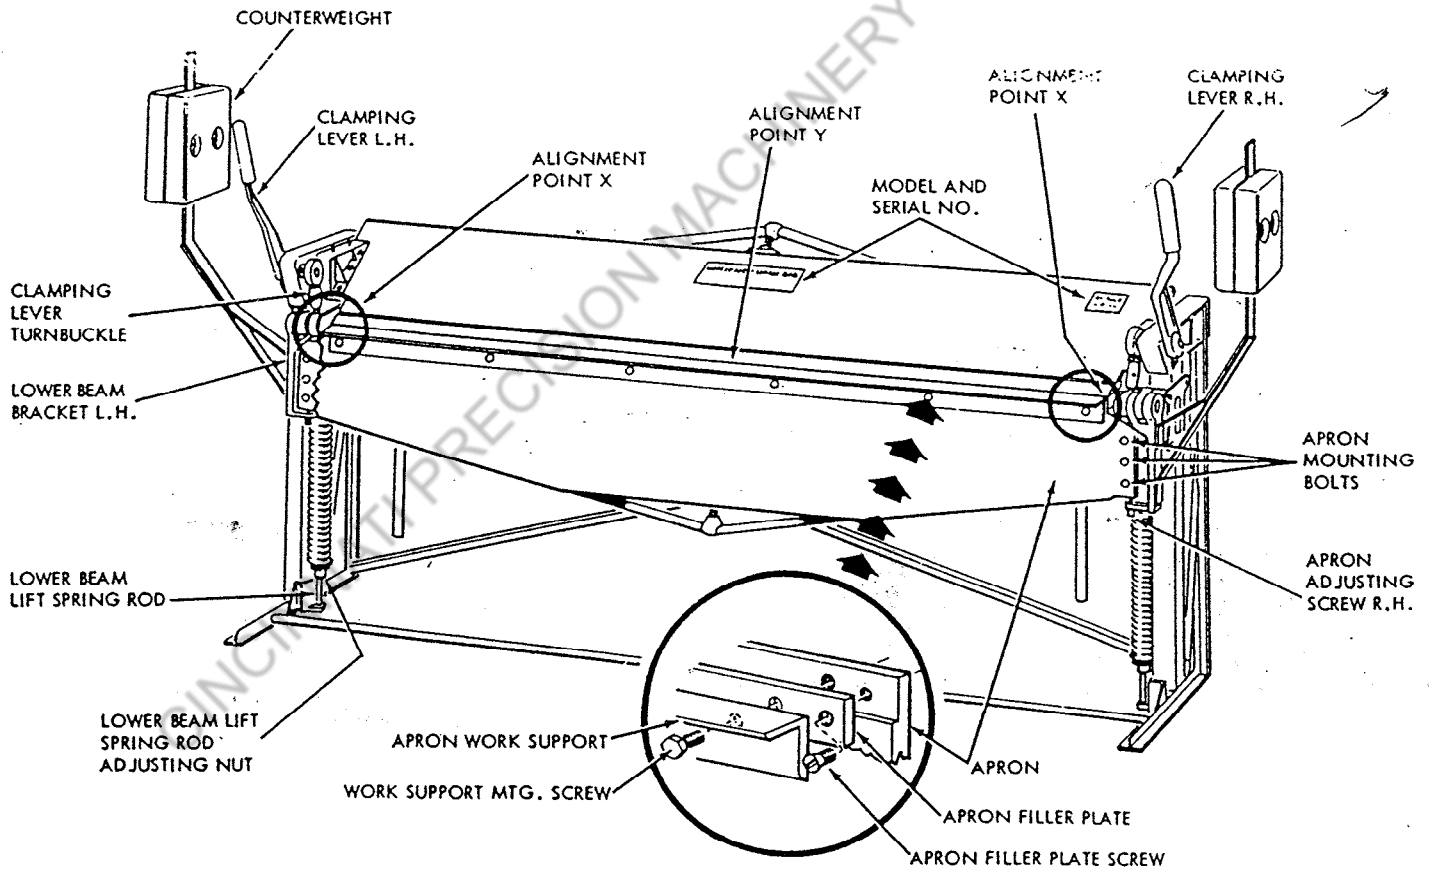
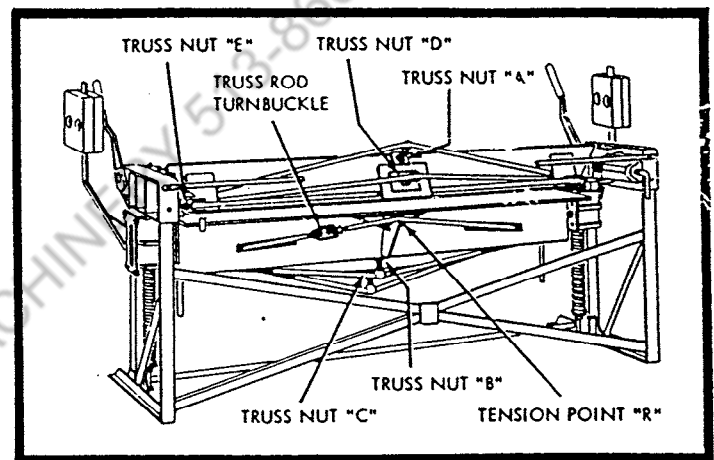
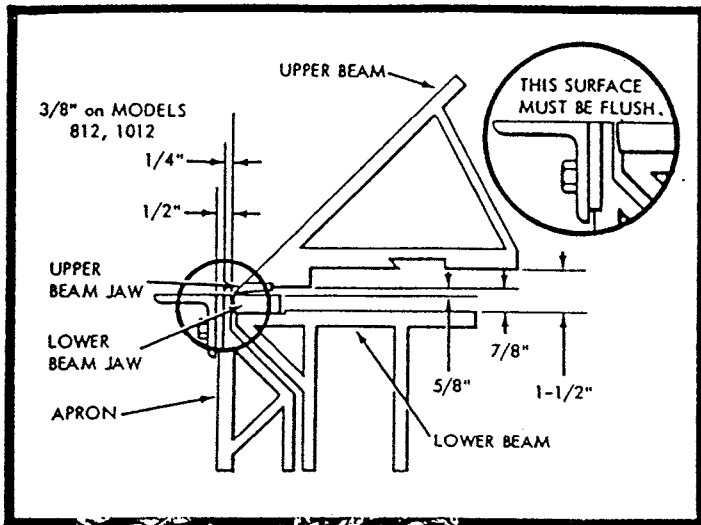

Figure 2. Front View of Brake
Figure 7. Rear View of Brake Showing Tension Adjustment Points
Figure 3. Reference Dimensions
1. Apron angle iron work support (see figure 2) is removed.
2. Increase the distance between the brake jaws by turning the Lower Beam Lift Spring Rod Adjusting Nut (figure 2) at each end of brake downward as far as it will go.
Remove Apron Angle Iron Work Support and Apron Filler Plate (inset, figure 2). This permits 1/4" reverse bends to be made on all brakes except Model Nos. 812, 1012, and 1214 will make a reverse bend of 3/8".
If the ends of the Upper Beam Jaw and Lower Beam Jaw do not line up at the alignment points (X, figure 2), adjust as follows:
1. Loosen all Truss Nuts (A, B, C, D, E, figure 7) and Truss Rod Turnbuckle until all tension is released.
2. Tighten the Truss Rod Turnbuckle until the rods are snug at tension point (R). Tighten an additional 1/4 turn.
3. Tighten Truss Nut (B) until snug. Tighten an additional three complete turns.
4. Check Apron at the alignment points (X, figure 2) to see if it is flush with top of Lower Beam Jaw (see inset, figure 2). Up and down movement of the Apron is controlled by turning the Apron Adjusting Screw (figure 2) at each end of the Apron.
5. Tighten Truss Nut (C, figure 7) until Apron is flush with Lower Beam Jaw at alignment point (Y, figure 2).
6. Tighten Truss Nut (E, figure 7) as tight as possible.
7. Tighten Truss Nut (A) until the Upper Beam Jaw is straight and parallel in relation to the Lower Beam Jaw.
8. Tighten Truss Nut (D) until the center of the Upper Beam Jaw bows forward slightly.
2. **ADJUSTMENTS FOR BOWING:** (Refer to figure 7 for location of Truss Nuts).
**SOLUTION:** Release tension on Truss Nut (B).
**SOLUTION:** Tighten Truss Nut (B). Level the Apron with the Lower Beam Jaw (see figure 3).
**SOLUTION:** Release some tension on Truss Nut (D) (depending on your brake).
**SOLUTION:** Tighten Truss Nut (D) (depending on your brake).
3. **ADJUSTMENT FOR UNEVEN ANGLE OF BEND:** If 90° sample bend is true at both ends but less than 90° at center of piece, loosen Apron Mounting Bolts (figure 2) and lower the Apron approximately 1/32" by unscrewing the Apron Adjusting Screws. Retighten the Apron Mounting Bolts and tighten Truss Nut (C, figure 7) until both jaws of brake are flush at brake center (see figure 3).
The opening between the brake jaws may be increased to a maximum of 1-5/8". With the Clamping Levers in the unlocked position, turn the Lower Beam Lift Spring Rod Adjusting Nut (figure 2) at each end of brake downward until the desired opening is obtained.